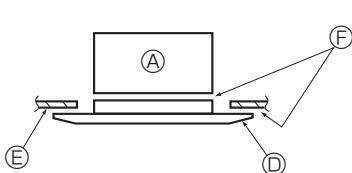

Fig. 5-8
- * Make sure that there are no gaps between the main unit and the grille or the grille and the ceiling. (Fig. 5-8)
④ Main unit
⑤ Electric component box
⑥ Screw with washer (Accessory)
⑦ Grille
⑧ Ceiling
⑨ Make sure that there are no gaps.
⑩ Temporary hanging hooks on the panel